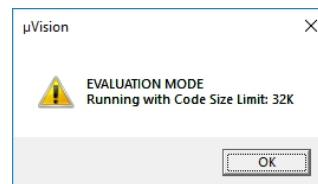

Figure 22. Pop-up window for evaluation version of debugger
- ☞ Note: Whereas the lab workstations have a professional license for the µVision software, if you download the software for your personal use, you will not have a license, and you will get a pop-up window (shown in Figure 22) at this point that warns the debugger will run in evaluation mode with a code size limit of 32 KB. Just click the OK button in the pop-up window, and then the debug session will start.